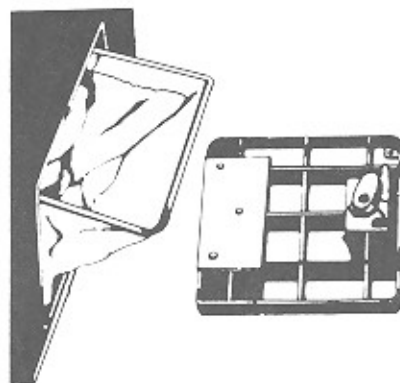

Figure 3-5. Cash Bag Removal
1. Unlock the cash bag door and pull the door away from the cabinet (see figure 3-5)